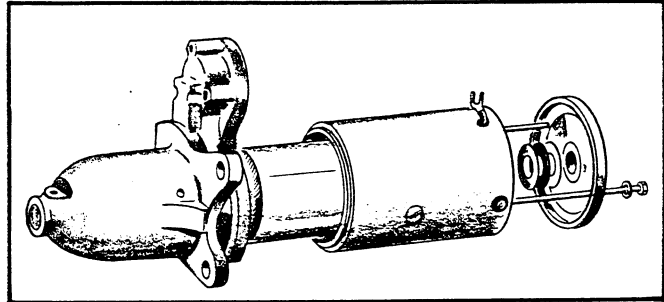

FIGURE 32. REMOVING THROUGH BOLTS
2. After removing the thru bolts, the starting motor can be divided into three parts – the front bracket, housing and rear bracket. The spacing washers shown in Figure 32 are used for adjustment of